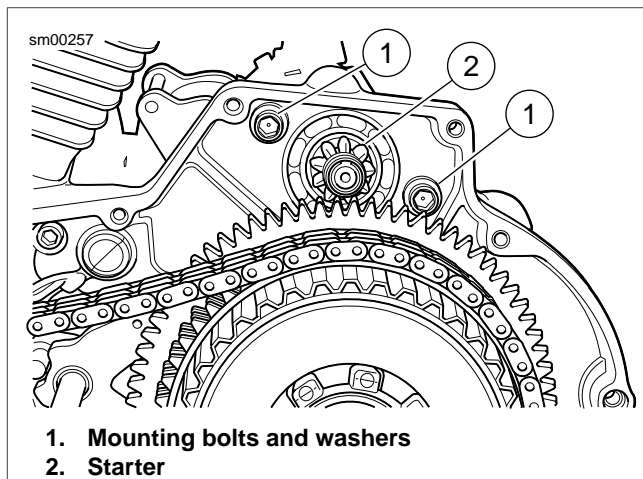

Figure 6-21. Starter Mounting
5. See Figure 6-21. Remove two starter mounting bolts and washers (1).